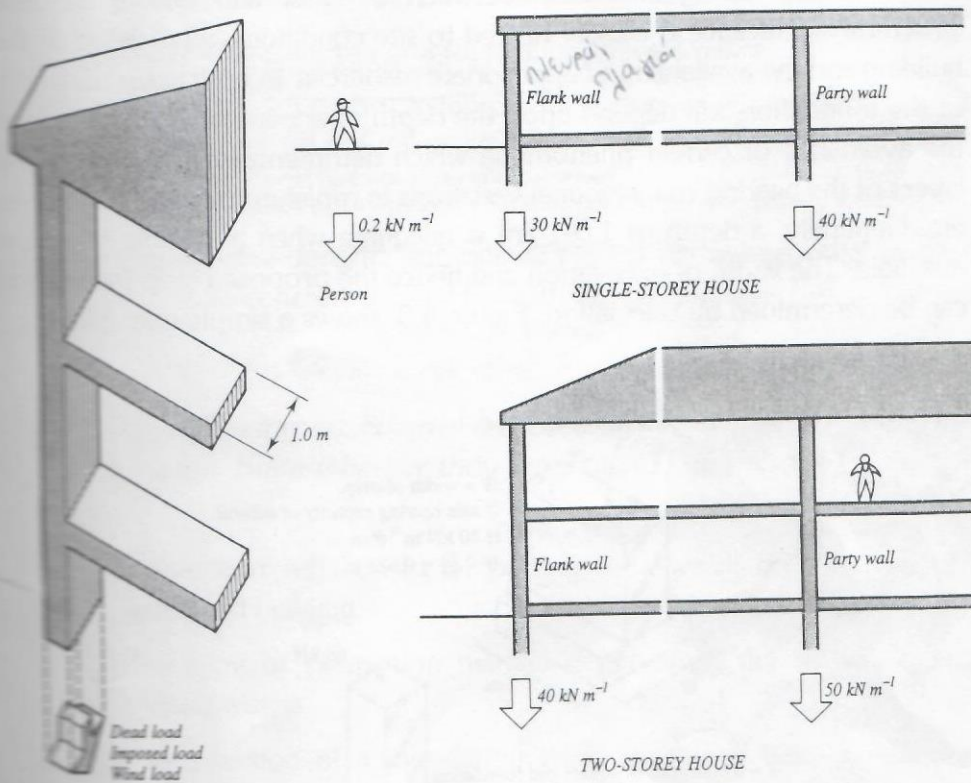

Figure 4.2: Typical loads on a two-storey house.
- 3 Determine the combined building loads (dead, imposed and wind) and allow for the self-weight of the foundation. Typical loads for a single- and two-storey house are indicated in Fig. 4.2.